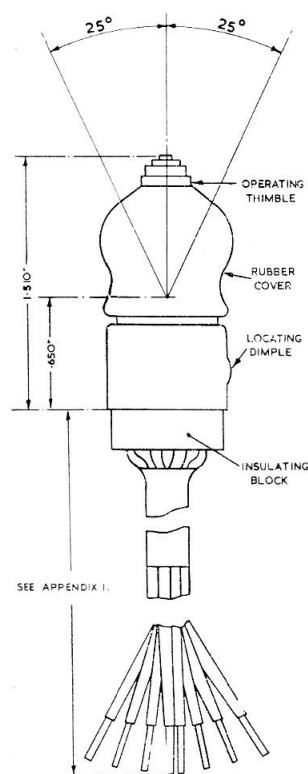

Fig. 2. Trim switch, four-way
15. A dimensional view of the four-way trim switch is shown in fig. 2. The switch is designed to be supported at the lower rim of the outer case and to fit into a circular mounting recess having a slot to align with the dimple on the switch case. The switch is held in its housing by a circlip. The mounting attitude of the switch is unrestricted.